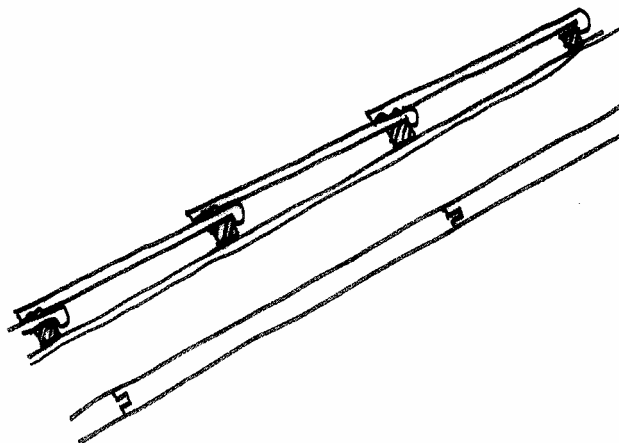

Figure 10.34 – Reflective foil sarking and bulk insulation to underside of rafter
- ❖ **Rodent proofing is difficult.** *Fig10.34*